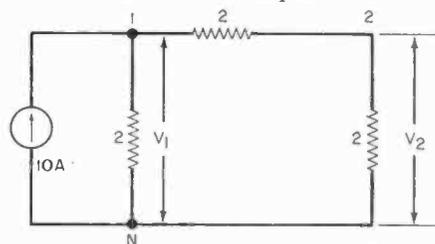

Fig. 11
**Ex. 12.** For the network in Fig. 11, determine  $V_1$  and  $V_2$ . *Sol.* At node 1,  $-10 + 0.5V_1 + 0.5(V_1 - V_2) = 0$ , or  $10 = V_1 - 0.5V_2$  (Eq 11). At node